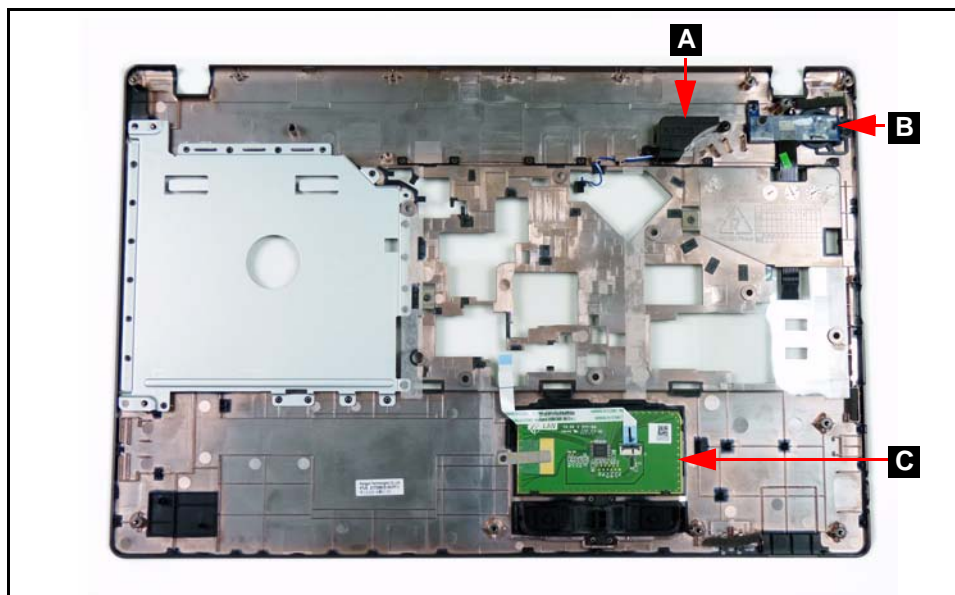

Figure 3-20. Upper Cover Component Location
1. Find speaker (A) on upper cover. (Figure 3-20)
1. Install speaker (A) on upper cover. (Figure 3-20)
1. Find power board (B) on upper cover. (Figure 3-20)
1. Install power board (B) on upper cover. (Figure 3-20)
1. Find touchpad (C) on upper cover. (Figure 3-20)
1. Install touchpad (C) on upper cover. (Figure 3-20)